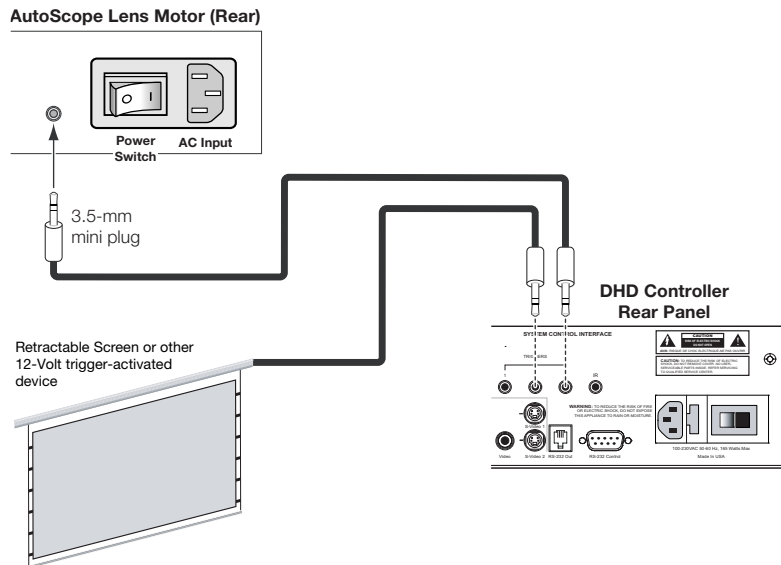

Figure 3-19. Connecting 12-Volt Trigger Outputs
If your SC-1 is equipped with a CineWide with AutoScope system, connect the AutoScope lens motor to a 12-volt trigger output on the DHD Controller; see Figure 3-19.
AutoScope Lens Motor: With AutoScope-equipped projectors, a third power cord is provided for the lens motor. Plug the female end of the AC power cord into the AC input on the rear of the lens motor assembly (see Figure 3-19). Connect the other end to a 110 VAC power source.
3. If this is an AutoScope-equipped projector, turn on the main power switch at the rear of the AutoScope lens motor. The lens motor power switch is located next to the AC input (see Figure 3-19).